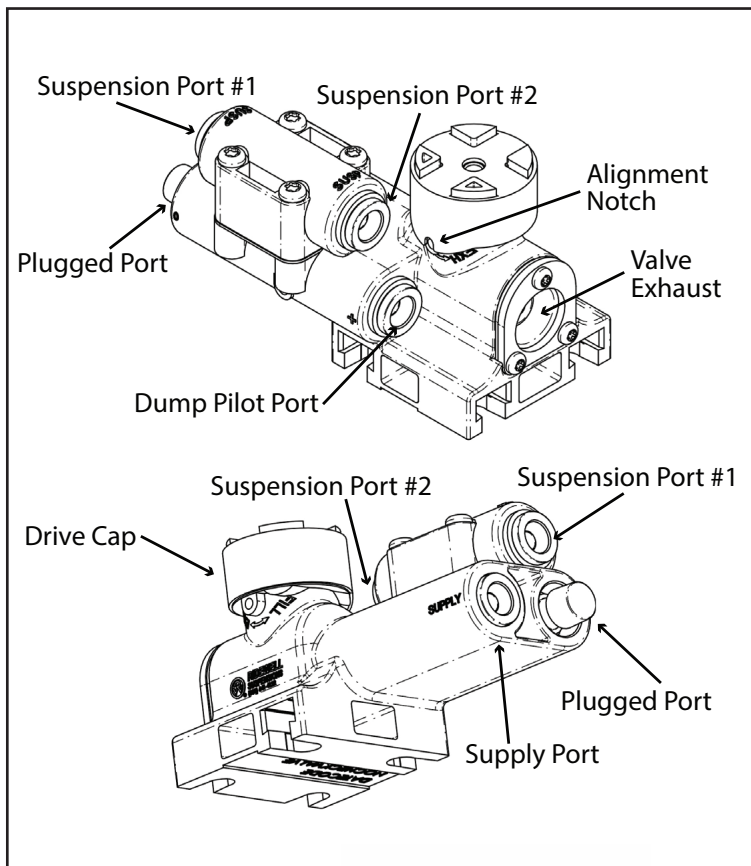

Figure 2. HCV - Pressure-Dump configuration (Normally Open).
5. Install air lines to the HCV supply port and the suspension and dump ports (Fig. 2; 3)